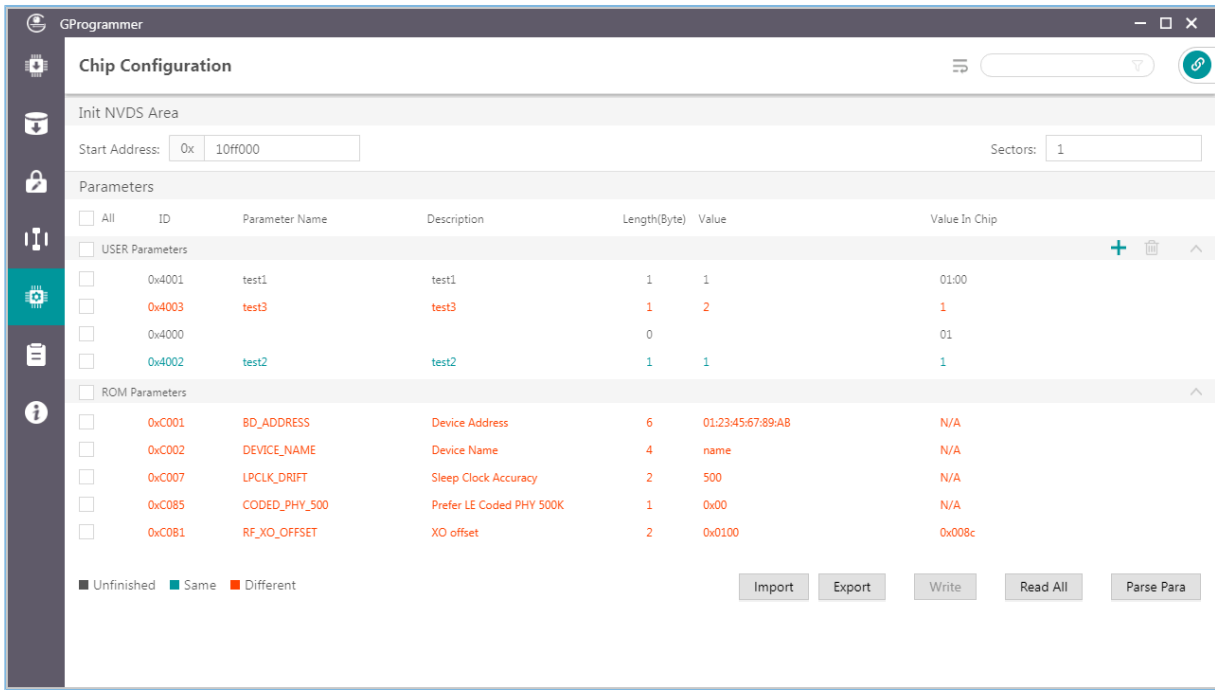

Figure 3-37 Read All interface
- **Unfinished:** Parameters in unfinished state are presented in black. These parameters are either new ones different from the default listed parameters after users click **Read All** (example: 0x4000 in Figure 3-37) or ones that have been listed in the NVDS area but with a different parameter length (example: 0x4001 in Figure 3-37).
- **Same:** Parameters in same state are presented in green, indicating the parameters already exist in the NVDS area and have the same length and value as those in the default list (example: 0x4002 in Figure 3-37)
- **Different:** Parameters in different state are presented in orange, indicating the parameters already exist in the NVDS area and have the same length as but a different value from default listed parameters (example: 0x4003 in Figure 3-37)